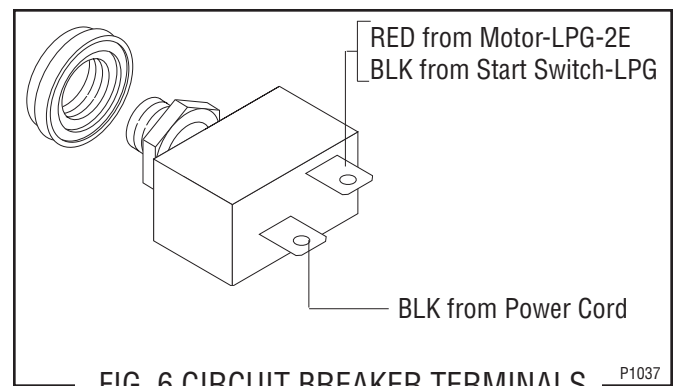

FIG. 6 CIRCUIT BREAKER TERMINALS
6. Refer to FIG. 6 when reconnecting the wires.